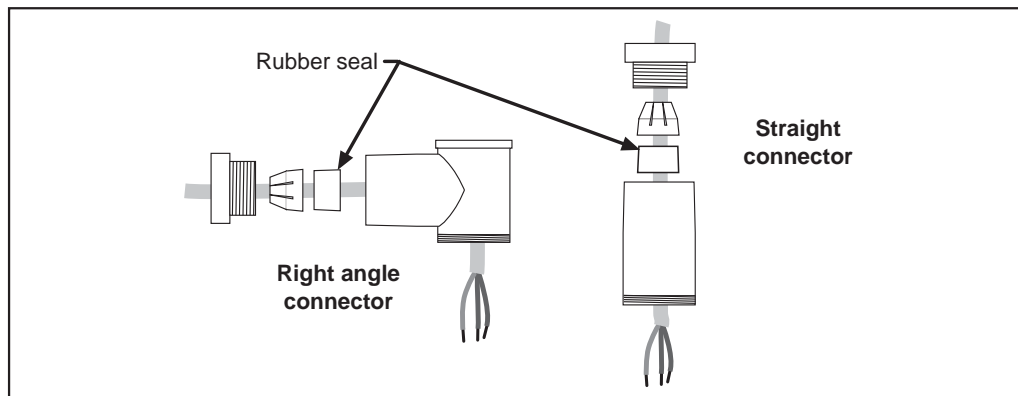

Figure 3-3. HDP Connector Showing Cable Being Threaded through Components
2. Using the seal you selected, thread the cable through the parts of the connector assembly as shown in Figure 3-3.